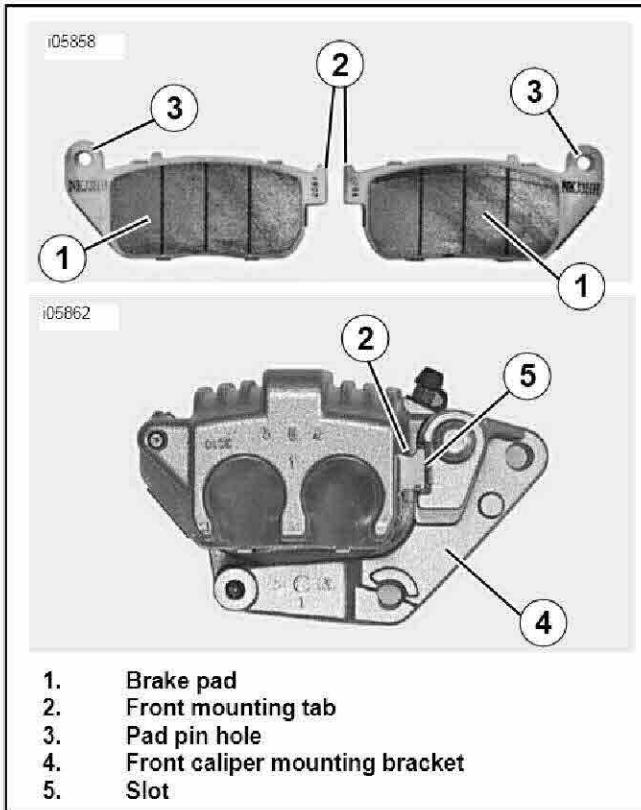

Figure 10. Front Brake Pads
6. See Figure 10. Insert one set of brake pads (1) into caliper with friction material on pad facing opening for brake disc. Curved portion of pad fits into recessed area of caliper. Make sure brake pad front mounting tab (2) fits into slot (5) in caliper mounting bracket (4).
- See Figure 10. Pad front mounting tabs (2) must be fully seated in mounting bracket slot (5).